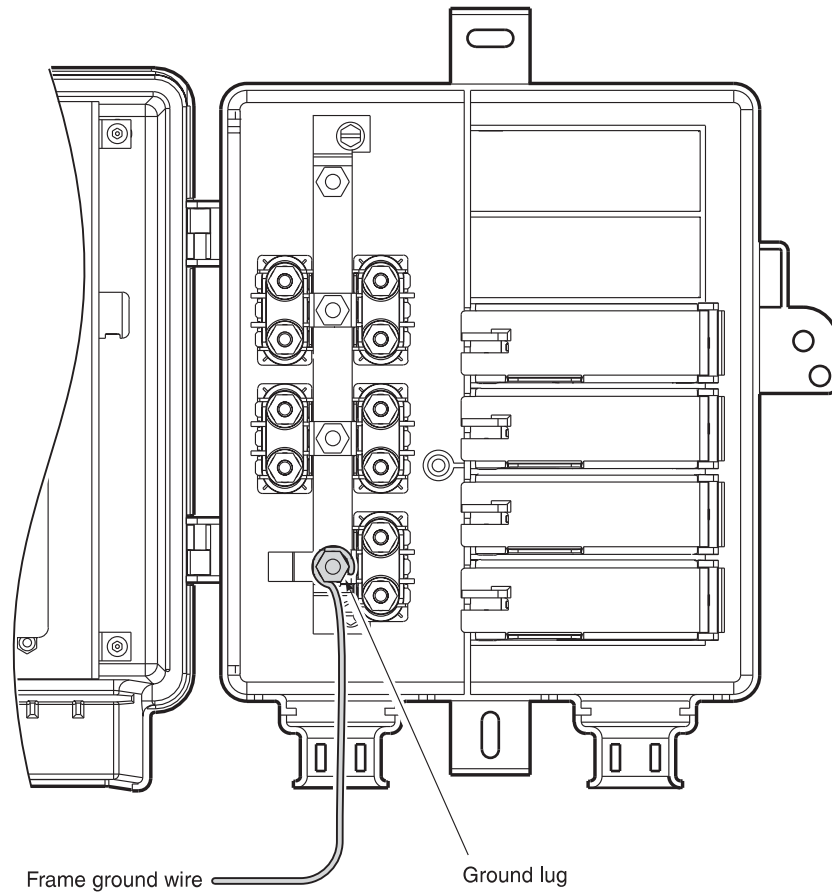

Figure 7. Attaching the Frame-Ground Wire
- 2 Use a #1 Phillips screwdriver to punch a small hole in the bottom of the rubber grommet on the left-hand bottom side of the RT enclosure (see Figure 7).